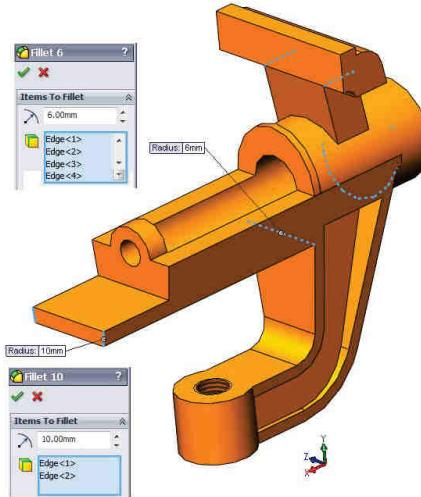

Fig. 2.17
**28 Raciordare 2 muchii R10:** comanda Fillet - Fig. 2.17 - rază R10 / selecție 2 muchii /
**29 Raciordare 4 muchii R6:** comanda Fillet - Fig. 2.17 - rază R6 / selecție 4 muchii /
**28 How to fillet 2 R10 edges:** the Fillet command - Fig. 2.17 - R10 radius/ select 2 edges /
**29 How to fillet 4 R6 edges:** the Fillet command - Fig. 2.17 - R6 radius/ select 4 edges /